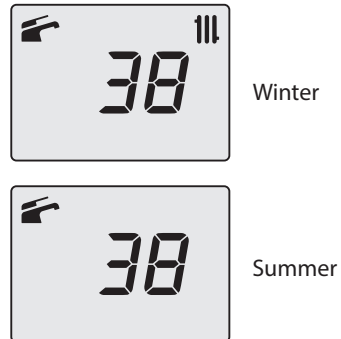

Figure 9.16
- Press key 12 (Figure 9.10) to exit "chimney sweep mode" and return to the previously set boiler status (Figure 9.16).